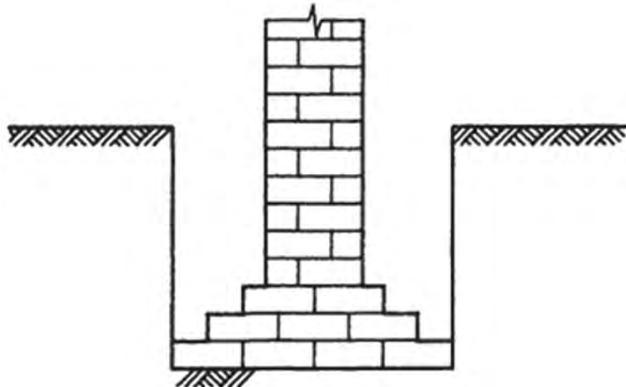

Fig. 7.4: Spread Footing Foundation
5. Now courses of the bricks are arranged as per given Fig. 7.4, in which first layer is three brick thick.